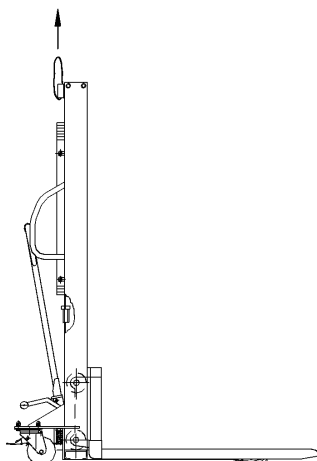

Fig. 1
- The correct slinging position is shown in figure 1 (see next page).